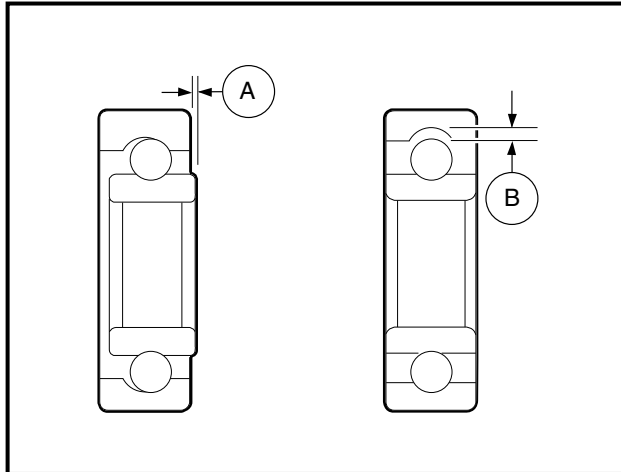

Figure 13-89 Check Ball Bearing
2. Spin the ball bearing by hand and check for (A) axial play and (B) radial play. Replace the ball bearing if it is noisy, does not spin smoothly, or if it has any play (**Figure 13-89, Page 13-42**).